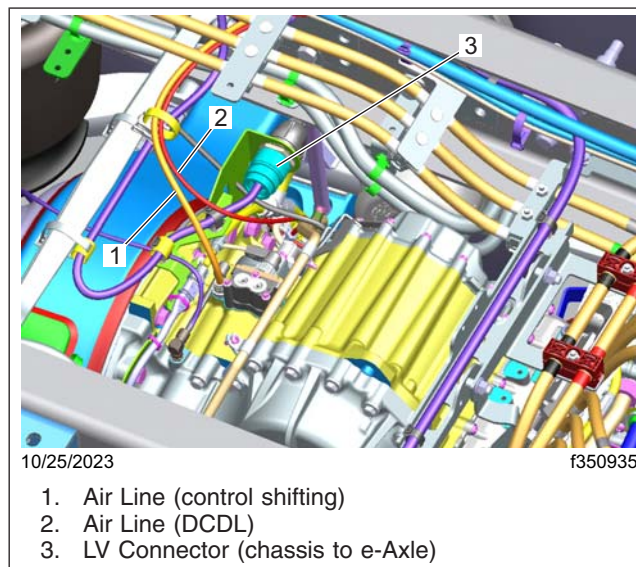

Fig. 13, Location of the LV Connector
4. Decommission the vehicle and verify the high-voltage (HV) system is shut down. For instructions, see **Section 08.08** of the *eCascadia Workshop Manual*.
8. Disconnect the low-voltage (LV) chassis harness from the e-Axle. See **Fig. 13**.
18. Disconnect the air lines, shown in Fig. 13 (Page 15), from the eCarrier.
50. Connect the air lines, shown in **Fig. 13** (Page 15), to the eCarrier.
51. Connect the LV chassis harness, shown in **Fig. 13** (Page 15), to the e-Axle.